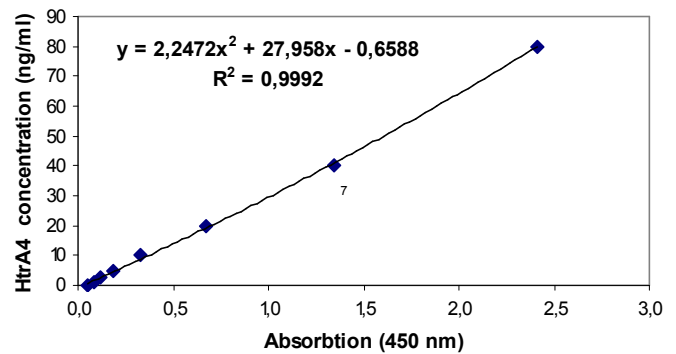

Fig. 2: Typical standard curve (prepared with Assay Buffer 2.5).
2. A standard curve is generated by plotting the mean absorbance (x-axis, fig. 2) against ng/ml standard (y-axis, fig.2).